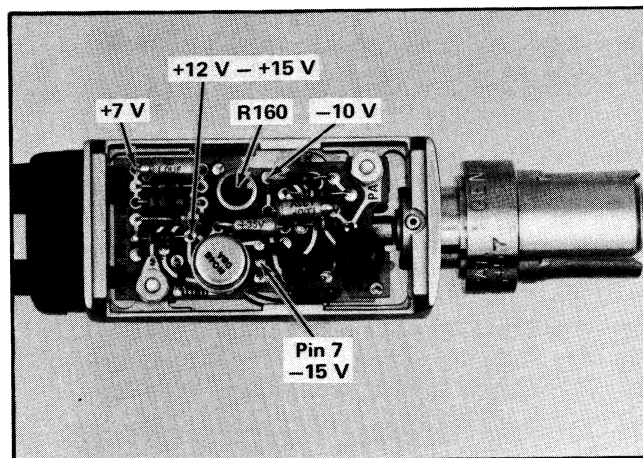

Fig. 5-10. Power regulator test points and output level adjustment.
b. Remove the bottom cover for the DC offset housing and locate the +7 V and -10 V test points (see Fig. 5-10).
d. ADJUST—Remove the cover to the offset housing and adjust R160 (Fig. 5-10) to eliminate any trace offset.